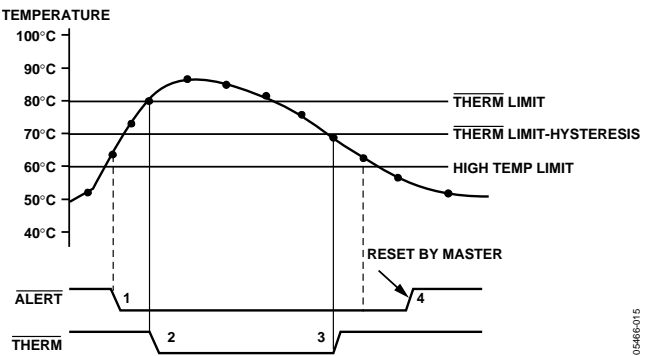

Figure 20. Operation of the ALERT and THERM Interrupts
Figure 20 shows how the THERM and ALERT outputs operate. A user may wish to use the ALERT output as a SMBALERT to signal to the host via the SMBus that the temperature has risen. The user could use the THERM output to turn on a fan to cool the system, if the temperature continues to increase. This method would ensure that there is a fail-safe mechanism to cool the system, without the need for host intervention.
- The THERM output de-asserts (goes high) when the temperature falls to THERM limit minus hysteresis. In Figure 20, the default hysteresis value of 10°C is shown.